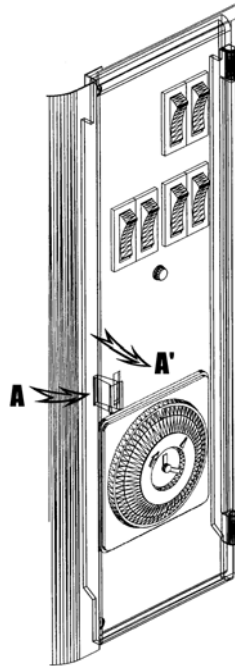

Figure 10
- To access to switches and timer, open the switch panel cover by pushing on the side (arrow **A**) and pulling (arrow **A'**) (Fig. 10).